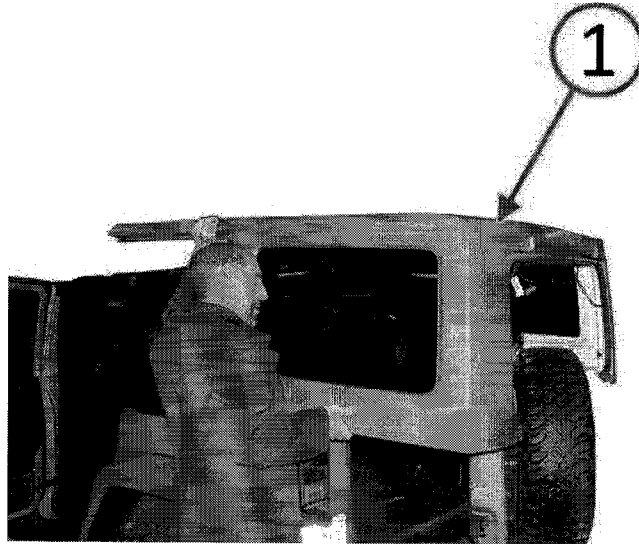

Fig. 4 Remove Hard Top
3. Remove the hard top (Fig. 4). Refer to the detailed service procedures available in DealerCONNECT> TechCONNECT under: Service Info> 23 - Body/Removable Top, Hard/Removal.